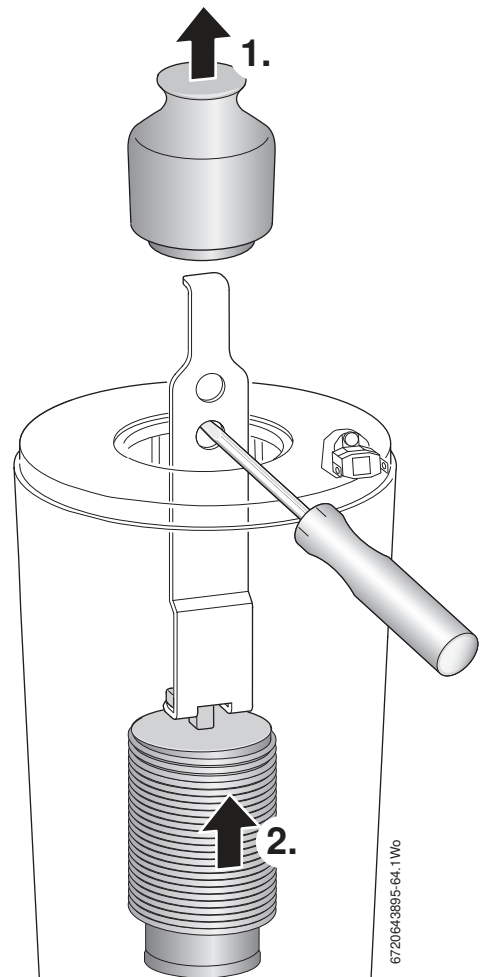

Fig. 81 Baffle removal
Refer to figure 81.
If the lower baffle is stuck, it may be necessary to use the “Baffle removal tool” from the heat exchanger cleaning kit - 7 716 192 312, as shown in figure 81.
The baffles (1) and (2) must be refitted into the heat exchanger in the order shown in figure 81. Failure to do so may result in damage to the boiler.